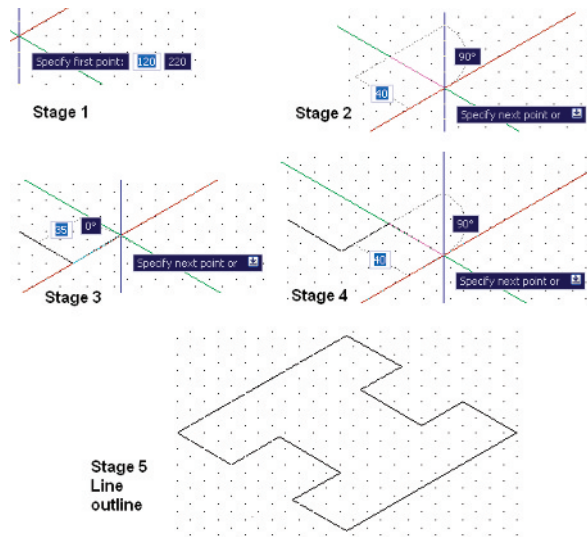

Fig. 13.29 Example – constructing the line outline
1. Using the **line** tool construct the outline in Fig. 13.29.
The stages of producing the extrusion are shown in Fig. 13.29. The resulting 3D model is a surface model.